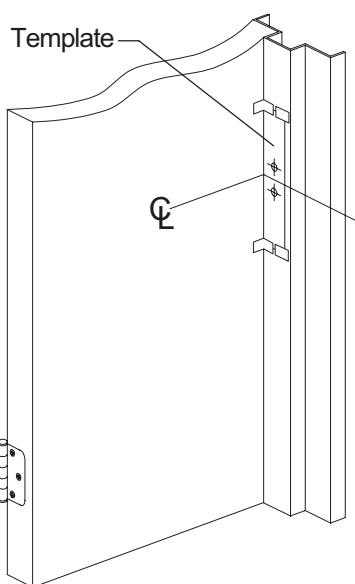

Figure 1-2. 299 or 299F Strike
1.2. **For 299 or 299F strike:** Tape strike template to frame aligned with center line \mathcal{C} as shown in Figure 1-2. Mark and prepare mounting holes per template.